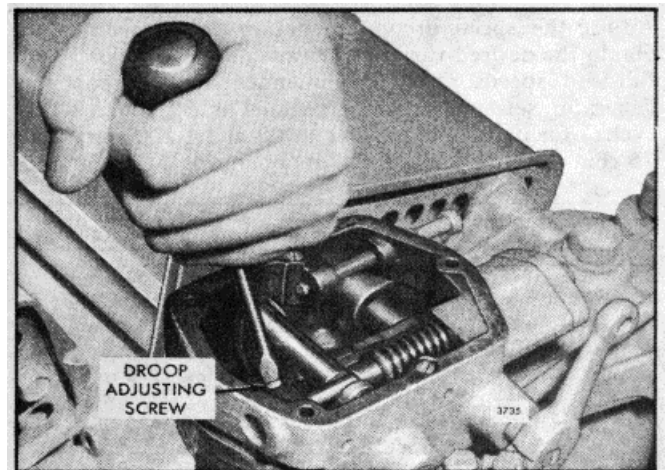

Fig. 18. - Adjusting Speed Droop
4. Loosen the droop adjusting screw (Fig. 18). Move the droop bracket so that the screw is midway between the ends of the slot in the bracket. Tighten the screw.